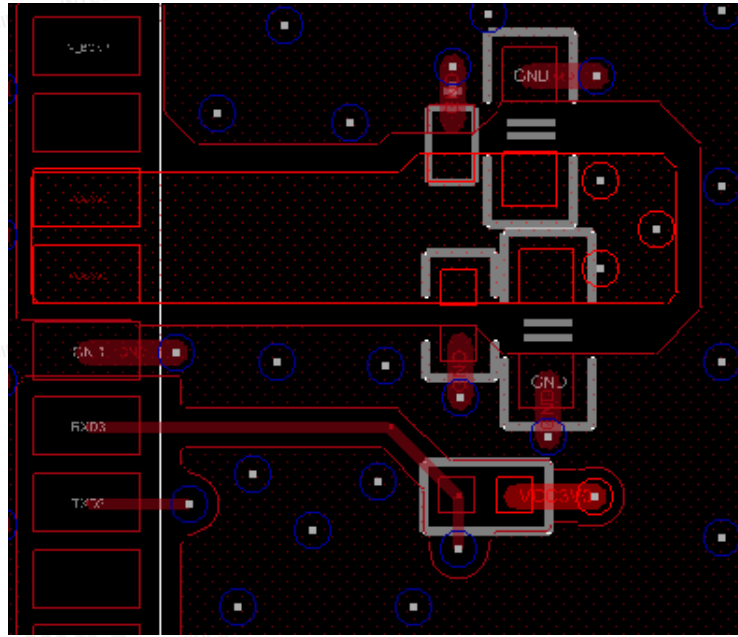

Figure 12 DM711 module power supply
- c) Filter capacitors and bypass capacitors are placed close to the DM711 module, connecting to the power supply with full connection in copper. See Figure 12.